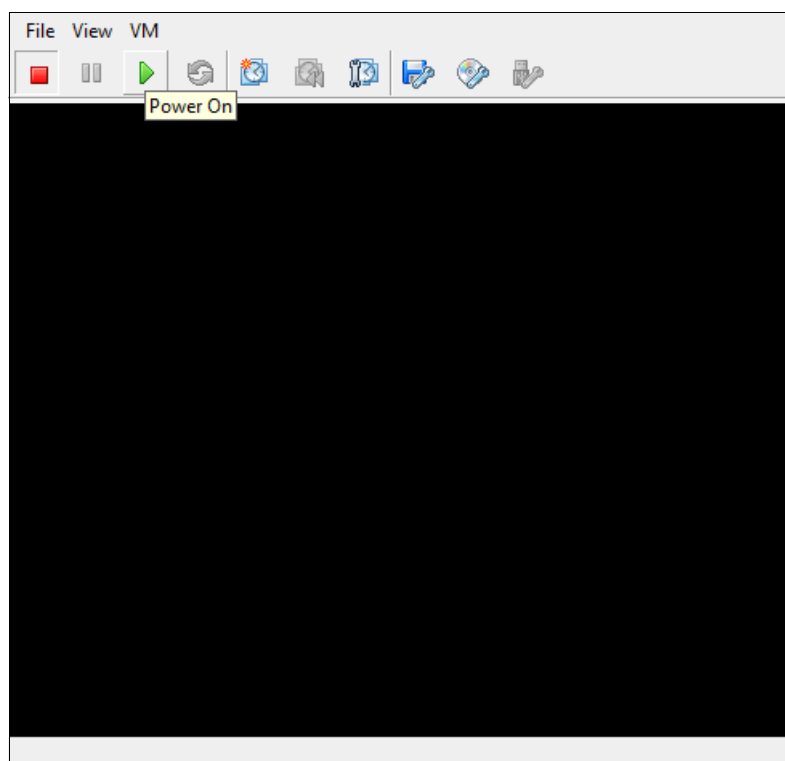

Figure 3-66 Boot the VM
19. Click the **Power On** button (Figure 3-66) to boot the VM.